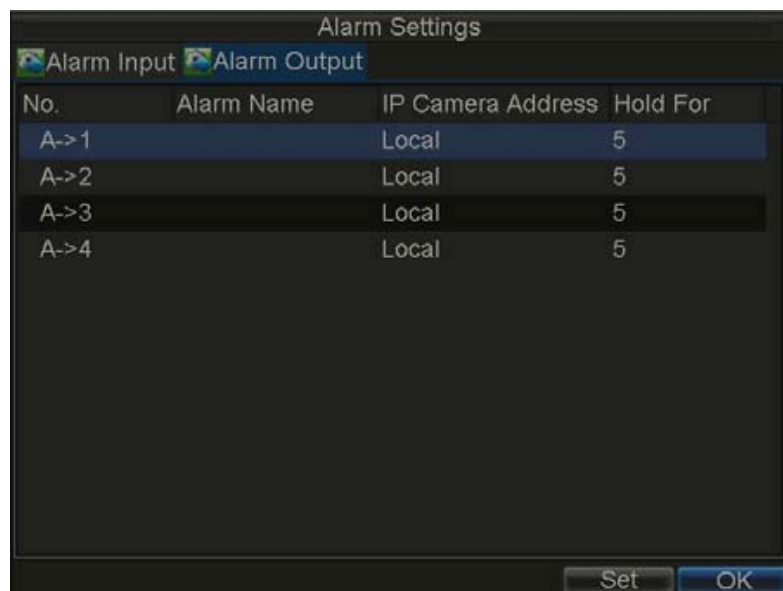

Figure 9.11. Alarm Output Interface
- 1) Select the **Alarm Output** tab. This will bring up the Alarm Output interface, shown in Figure 9.11.